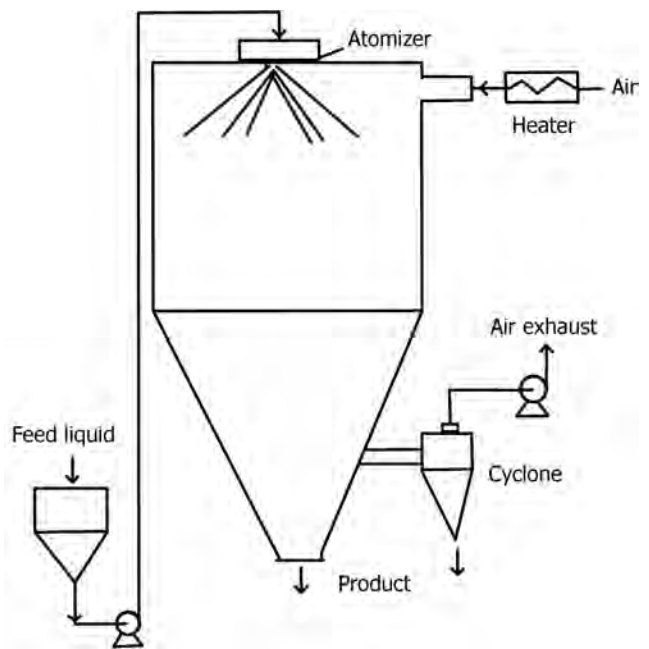

FIGURE 18.32 Spray dryer.
- Figure 18.32 gives a schematic line diagram of a spray dryer.